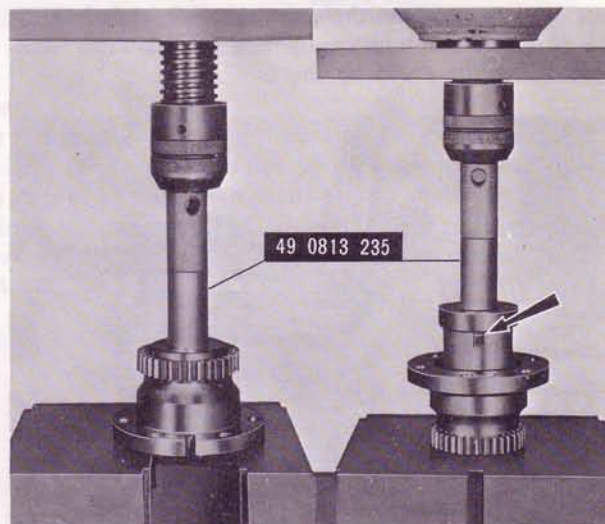

Fig. 1-31 Removing and installing main bearing
- 2) Remove the adaptor on the main bearing replacer and press the main bearing out of the stationary gear by using the **main bearing replacer** (49 0813 235), as shown in Fig. 1-31.